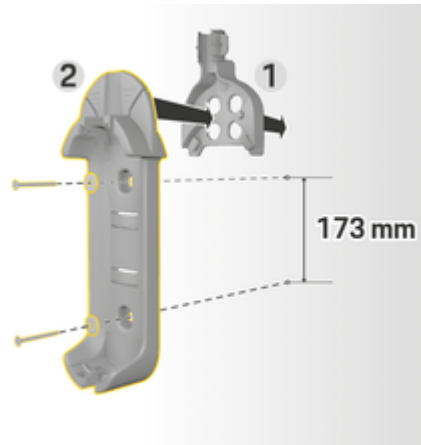

Fig. 8: Drilling dimensions
3. Press the standard wall mount 2 (Fig. 8) into the cable guide 1 (Fig. 8) from the front.